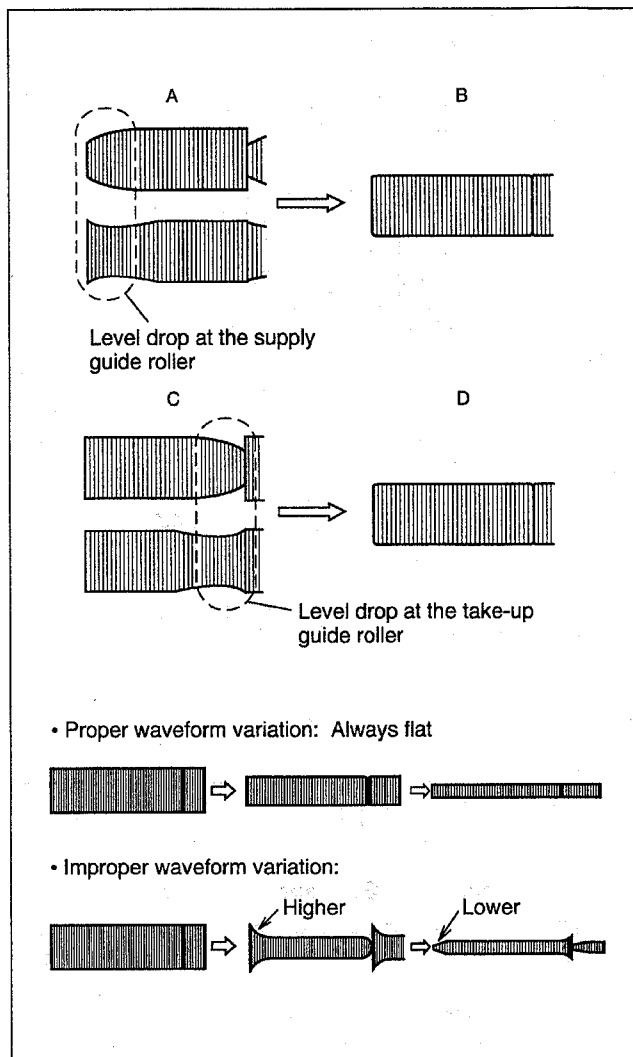

Fig. 2-4-3
- (6) Reduce the FM waveform while pressing the channel buttons (+, -) during playback. If a drop in level is found on the left side as shown in Fig.2-4-3, turn the guide roller of the pole base assembly (supply side) with the roller driver (PTU94002) to make the FM waveform linear. If a drop in level is on the right side, likewise turn the guide roller of the pole base assembly (take-up side) with the guide roller to make it linear. (Fig.2-4-3)
- (7) Then play MHP-L and make sure that the FM waveform varies in parallel and linearly with the tracking operation. When required, perform fine-adjustment of the guide roller of the pole base assembly (supply or take-up side).
- (8) After adjustment, tighten the set screw under the pole base assembly. (Take care not to tighten too much)
- (9) After tightening the set screw, play the alignment tape MHP and MHP-L again to make sure that the FM waveform has correct variation.